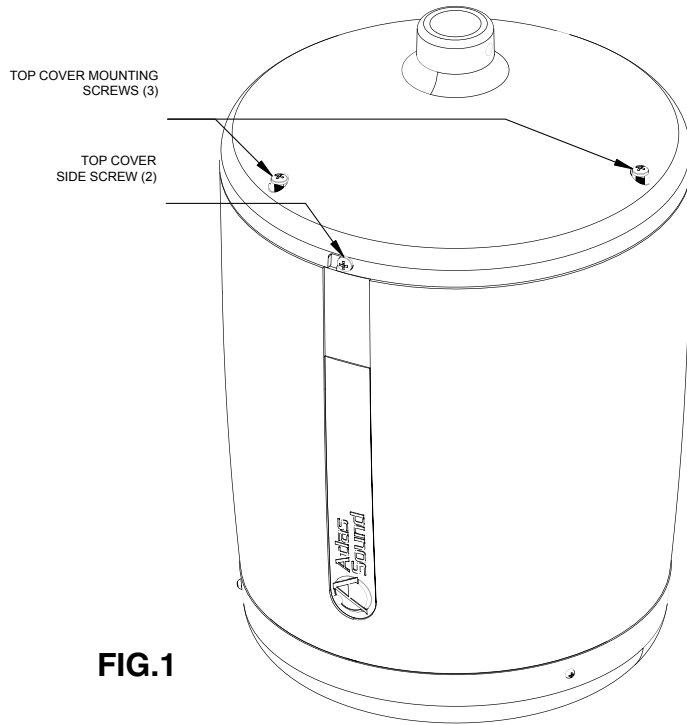

FIG.1
1. Remove the 3 top cover mounting screws, loosen the 2 side top cover screws rotate the top cover counterclockwise, and pull up to remove the top cover. (Fig 1 and 2)
1. Remove the 3 top cover mounting screws, loosen the 2 side top cover screws rotate the top cover counterclockwise, and pull up to remove the top cover. (Fig. 1 and 2)